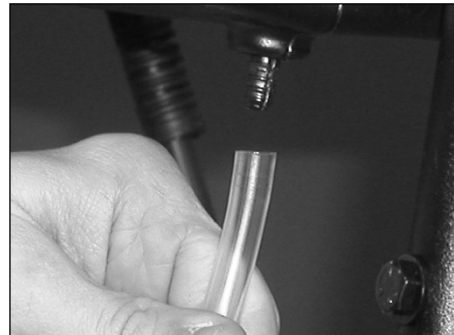

Figure 3 - Attach suction tube to barb fitting
4. Slide clear plastic hose attached to leg onto black plastic hose barb of detergent tank (See Figure 3).